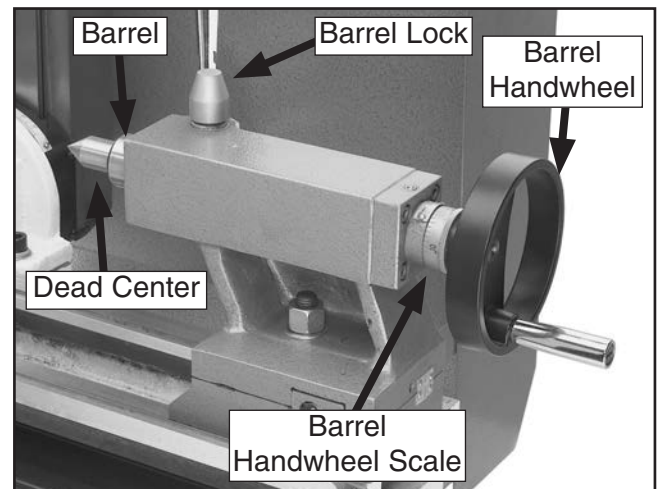

Figure 17. Tailstock components.
1. Familiarize yourself with the tailstock components shown in **Figure 17**.